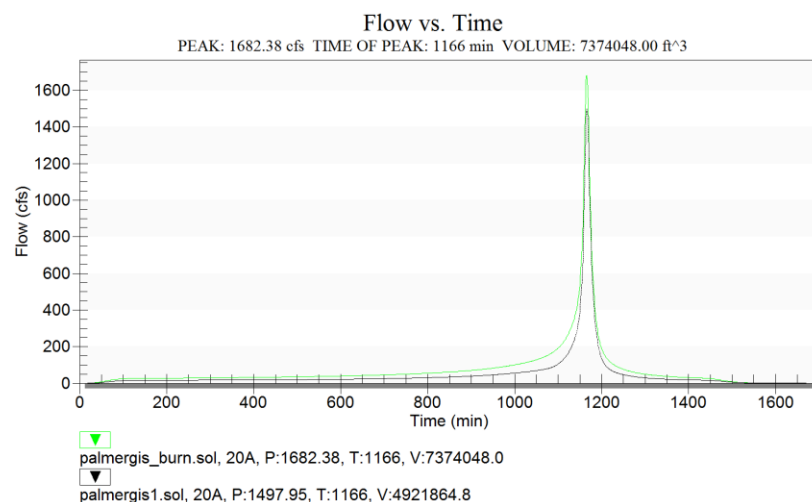

Figure 9-1: Burned/original hydrographs for MODRAT simulation
19. The plot will contain the original hydrograph (from the previous run) and the new hydrograph from the burned simulation (read in from the new \*.sol file). It should look similar Figure 9-1.